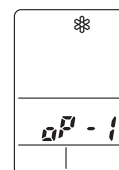

Fig. 8b
- After a few seconds, "❄" appears and "oP-1" blinks in the remote controller display area. (Fig. 8b)